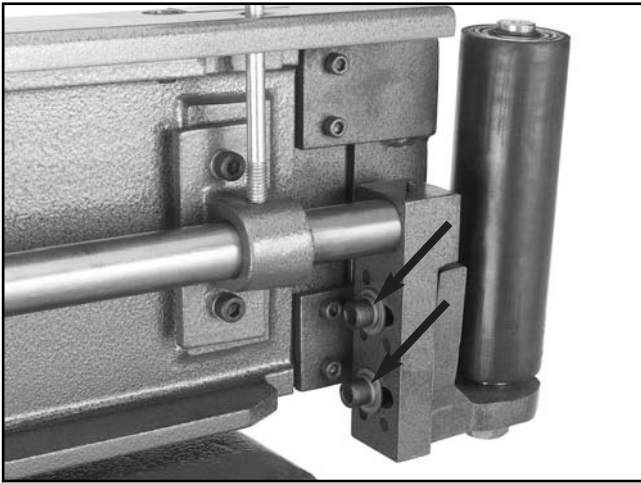

Figure 44. Idler roller adjustment cap screws.
3. Loosen the two cap screws, shown in **Figure 44**, approximately one full turn.